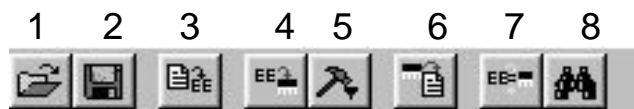

Fig. 9: Tool bar
In Fig. 9, the icons from left to right in the tool bar are (1) Open a CDS file, (2) Save (3) Load, (4) Write, (5) Protect, (6) Read OTP, (7) Verify, and (8) find code.
(3) File menu